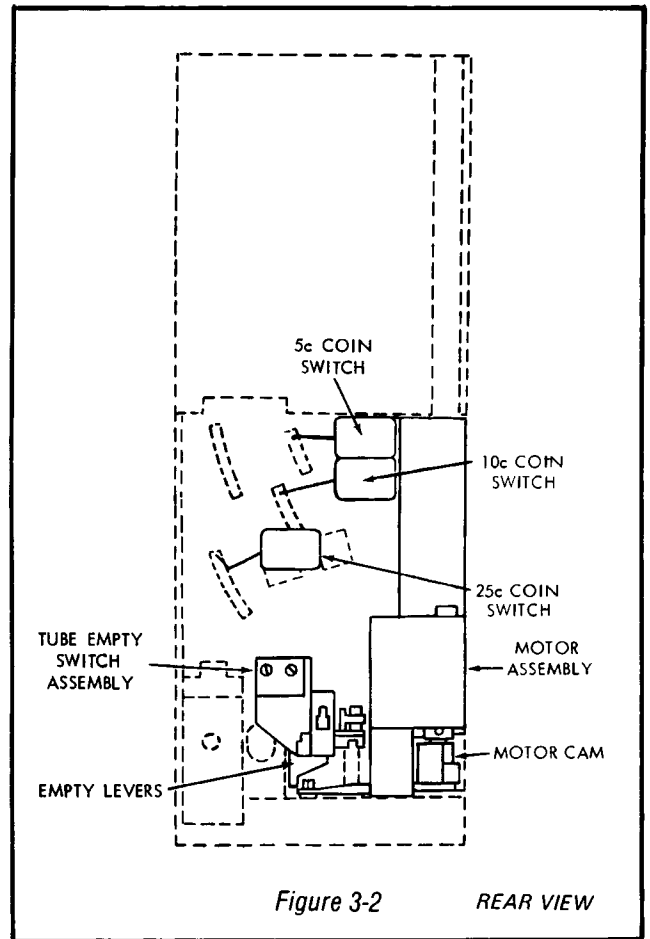

Figure 3-2 REAR VIEW
(Figure 3-2)**
J. DC MOTOR AND GEAR CASE ASSEMBLY (Figure 3-2)